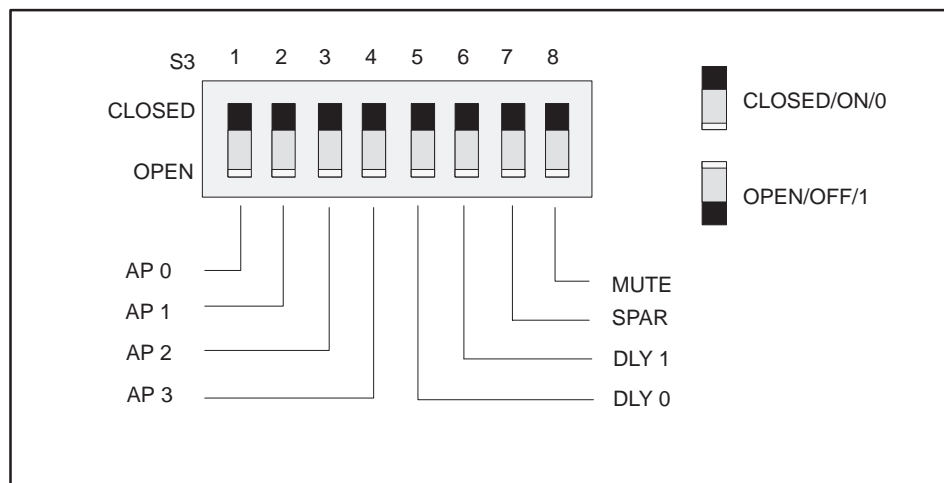

Figure 3-7 Field Interface Module S3 Dipswitch Settings
**Mode of Operation** The mode of operation is determined by setting the S3 dipswitch, as shown in Figure 3-7. This is referred to as the application. The first four dipswitches (1 – 4) are closed for the Drives Interface Application. Switch S2, on the front bezel, selects the specific drives-interface protocol. Refer to Table 3-1 for the protocol selection.
Dipswitch S3 assignments in Figure 3-7 are defined as follows.